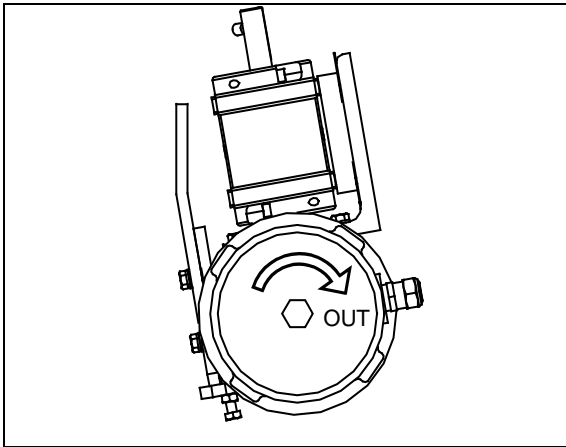
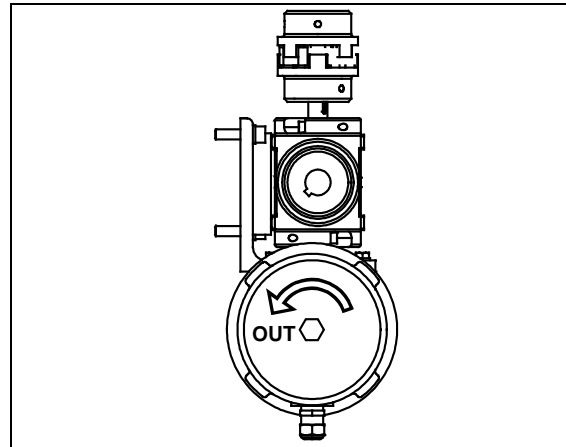

FIGURE 22 : DIRECTION OF ROTATION FOR EXTENDING (FRONT)
FIGURE 23 : DIRECTION OF ROTATION FOR EXTENDING (REAR)
6. Rotate the motor with a manual ratchet or any power drill until the slide-out comes to its full opened position (refer to figure 22 for the front slide-out and to figure 23 for the rear slide-out). **Slow down on the opening speed as the slide-out approaches its opened position, in order not to overshoot it, which may damage the mechanism.**